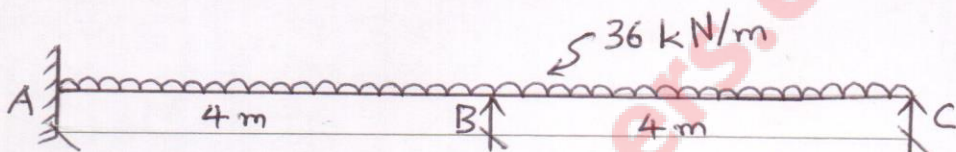

Fig. 3, Q. 2(d) and Q. 2(d) OR
(d) Draw B.M. dia. for a continuous beam ABC as shown in Fig.3. Use Clapeyron's theorem of three moments. 04
- (d) Draw B.M. dia. for a continuous beam ABC as shown in Fig.3. Use moment distribution method. 04